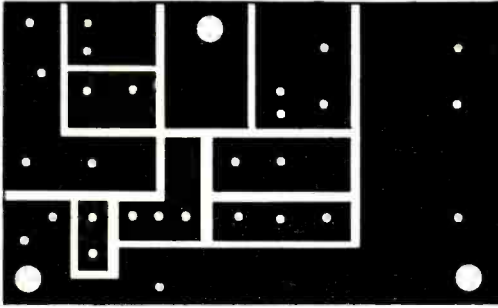

Fig. 2. Actual-size foil pattern for trigger circuit. Three large holes are for chassis mounting.
Fig. 2. The entire generator can be mounted in a small aluminum chassis as shown at the left. The four C or D cells are mounted in a holder affixed to the rear of the chassis half. The bulk of the circuit can be constructed on perf board (as shown below) or you can make a printed circuit board. The use of semiconductor sockets prevents heat damage to the semiconductors when installing but is an optional feature of design.
printed circuit board such as that shown in Fig. 2. (Perf board construction can be used if desired.) Assemble the components on the PC board as shown in Fig. 3. This diagram also shows where the external connections are made to the trigger circuit.
**Construction (Tiger).** The 40-watt IHF Tiger amplifier (schematic shown in Fig. 1) is assembled on a printed circuit board (foil pattern shown in Fig. 2). Mount the components on the board using the layout shown in Fig. 3. Be sure to use heat-sink grease between the two output transistors ( $Q1$  and  $Q4$ ) and their heat